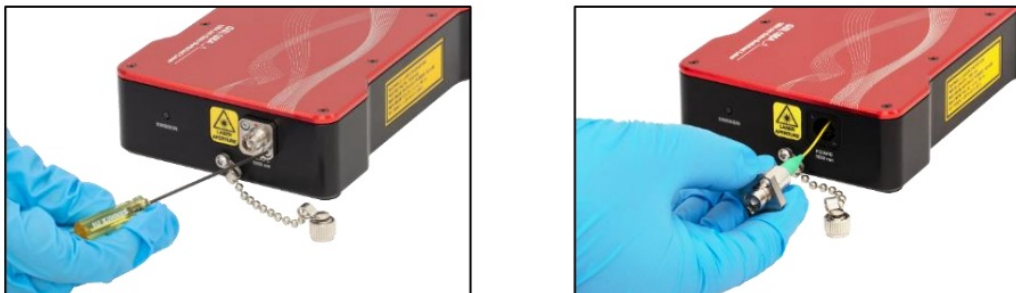

Figure 8 *Removal of Fiber Mating Sleeve (Left) and Fiber Connector Pulled Out for Cleaning (Right)*
2. Using a 1.3 mm hex wrench, remove the mating sleeve at the laser output (Figure 8).